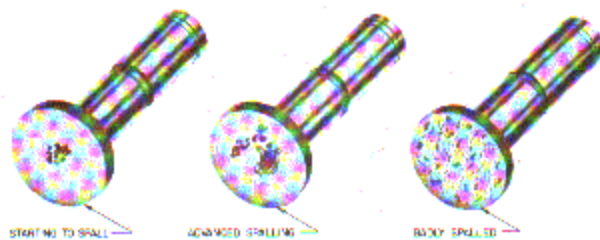

Figure 6-9. Appearance of Spalling Marks on Face of Hydraulic Tappet Bodies
b. Use a magnifying glass (min., 10 power) to check the face of the tappet body for signs of spalling or pitting as shown in figure 6-9. Any tappet body face which shows this condition is cause for rejection, and the tappet body must be replaced.